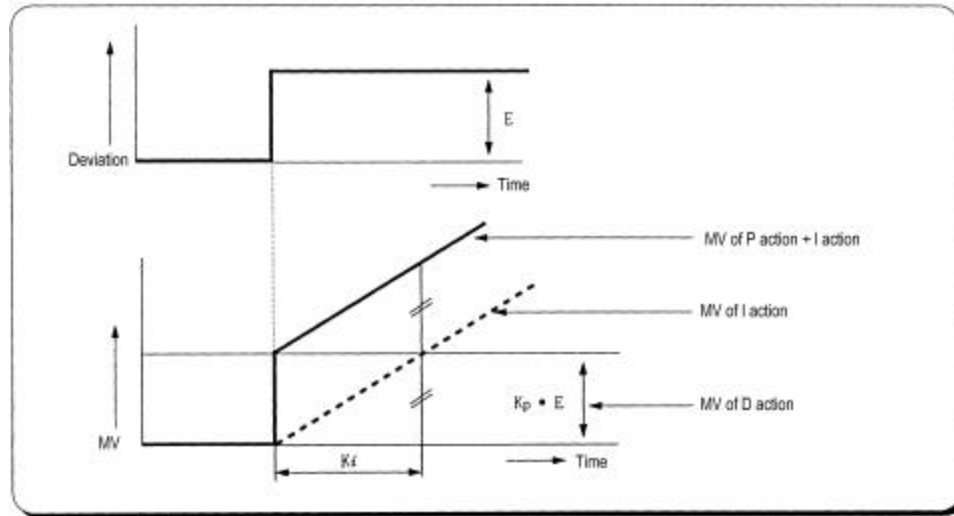

Fig. 2.4 The integral action with constant deviation
- (a) With integral operation, the manipulate value (MV) is increased or decreased continuously in accordance time in order to eliminate the deviation between the SV and PV. When the deviation is very small, the proportional operation can not produce a proper manipulate value and an offset remains between PV and SV. The integral operation can eliminate the offset value even the deviation is very small. The period of the time from when the deviation has occurred in I action to when the MV of I action become that of P action is called Integration time and represented as T_i .
- (b) Integral action when a constant deviation has occurred is shown as the following Fig. 2.4.